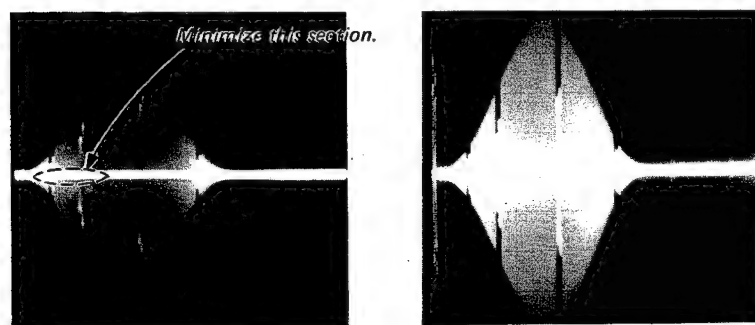

Fig. 19-2
5. Adjust L2 of BB board so that the output waveform as shown Fig. 19-2.